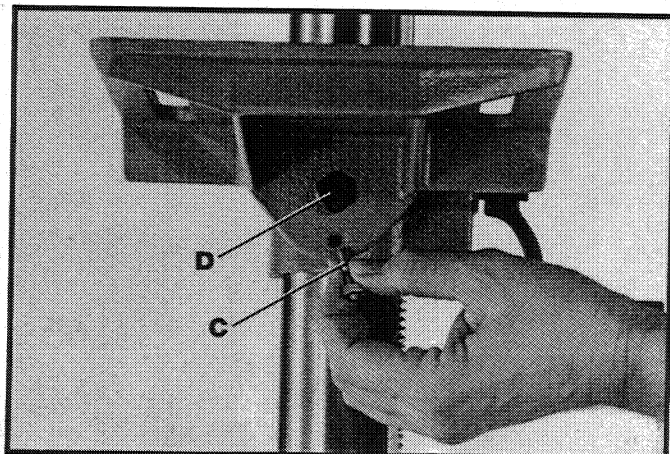

Fig. 32
4. When returning table to the level position, replace table alignment pin (C) Fig. 32. This will automatically position the table surface at 90 degrees to the spindle. Then tighten bolt (D).